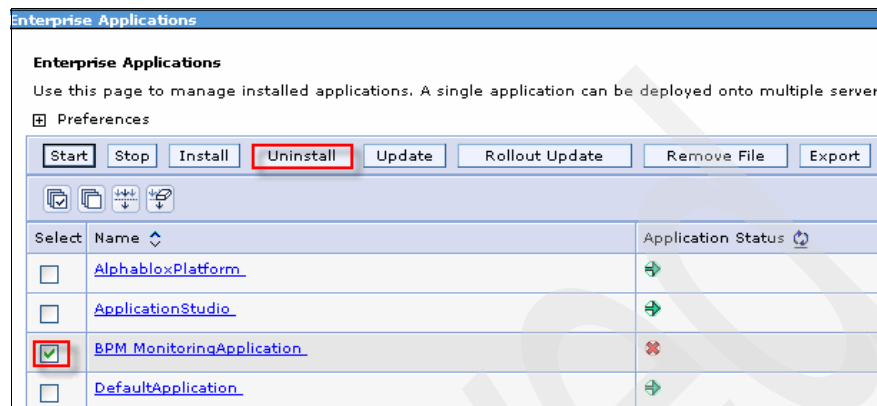

Figure 3-56 Enterprise Applications
5. In the Enterprise Applications panel (Figure 3-56), in the Select column, select the version of the monitor model you want to uninstall. Click **Uninstall**. To confirm the uninstallation, click **OK**.